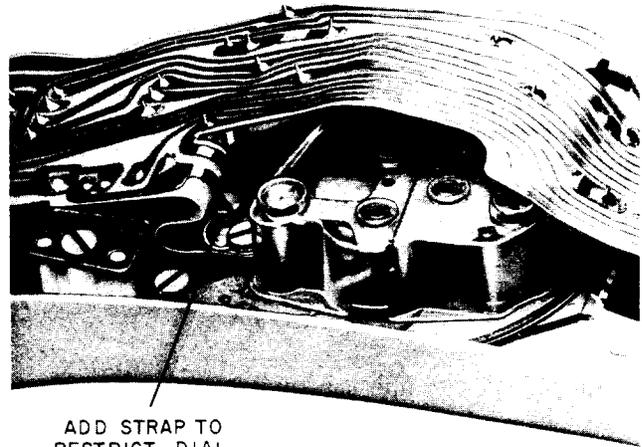

Fig. 8—Restricting Dial of 220-Type Hand Telephone Set
- (1) Remove handset cord from handset using KS-21107 releaser or equivalent.
- (2) Remove cover or number card retainer located just above dial using KS-21107 releaser or equivalent.
- (3) Remove light seal plate and the 2 screws located under retainer. This will release the cover from the handset.
- (4) Place a strap between the pulsing contacts as shown in Fig. 8. The dial will remain in the handset.